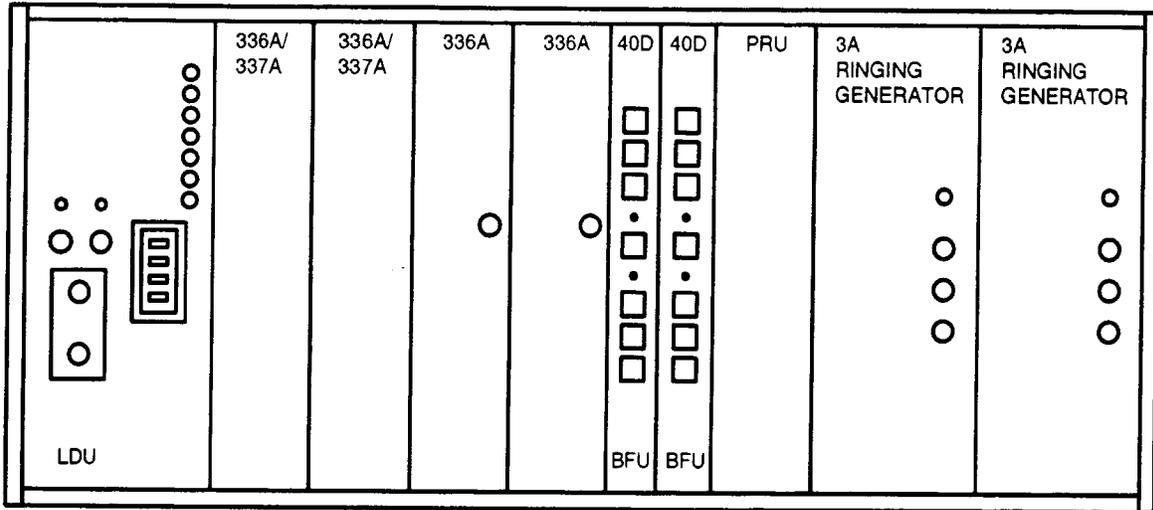

Figure 2 — Power Shelf
3. Insert one **336A RECTIFIER** into first vacant **RECT** slot (counting right to left) in power shelf (Figure 2).